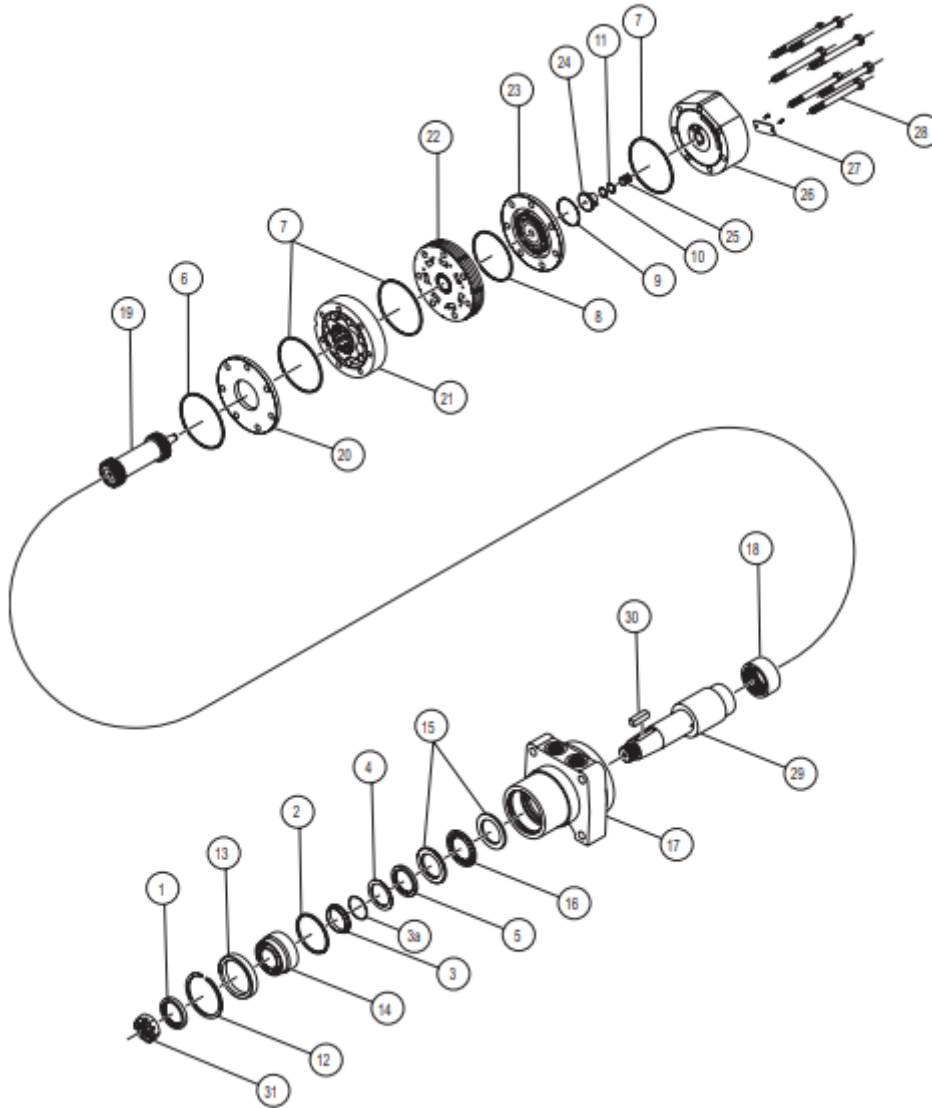

Figure 5: DT 701 Exploded view
- D) Place shaft (29) assembly into housing (17). Install dust seal (1) over shaft (29) with lip facing up (See Figure 5) and carefully press the seal down to seat it in the bearing (14). Place bearing spacer (13) over shaft (29). Install retaining ring (12) into groove in housing pilot (17). (NOTE: It may be necessary to lightly tap the snap ring (12) and bearing spacer (13) to allow the retaining ring (12) to seat properly.) Replace all shaft related components (i.e. keys, wire rings, nuts).